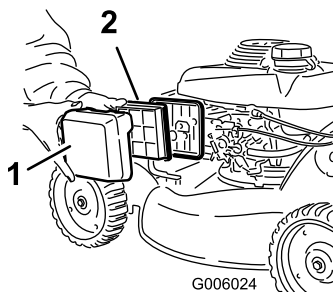

Figure 39
3. Remove the air filter (Figure 39).